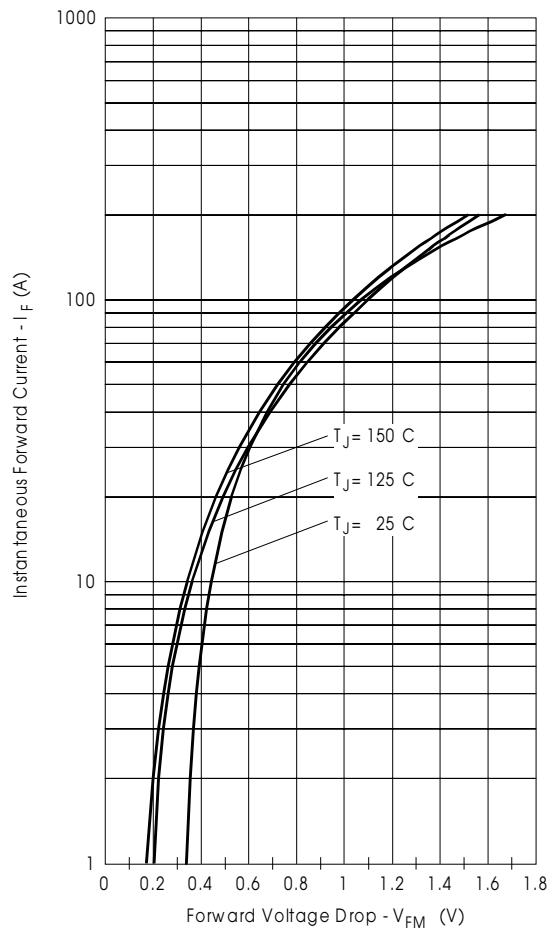

Fig. 1 - Max. Forward Voltage Drop Characteristics (PerLeg)
V_{FM} Forward Voltage Drop (Per Leg) * See Fig. 1 (1)	Typ. Max.